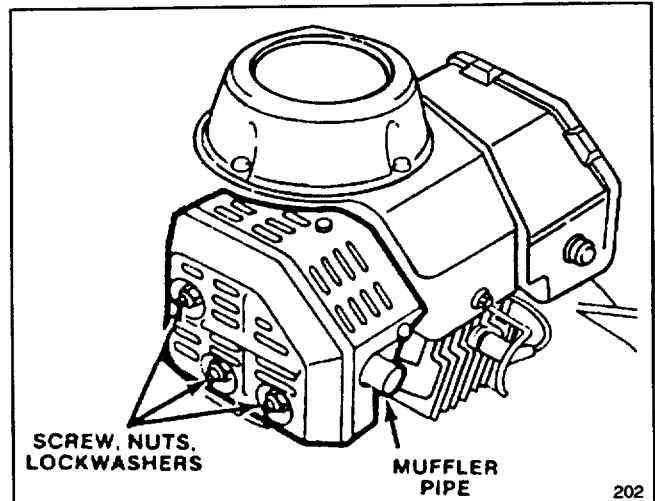

Figure 12
1. Use hard wood scraper and remove carbon from end of muffler pipe (Fig. 12).
2. Remove screw, two nuts, and lockwashers (Fig. 12). Slide muffler off mounting pins.